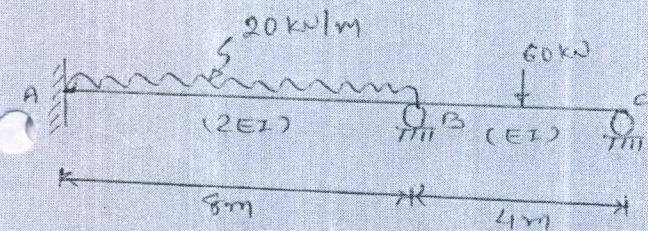

Figure 7
- (B) Analyse the continuous beam as shown in fig.7 by slope and deflection and draw bending moment diagram. [5]